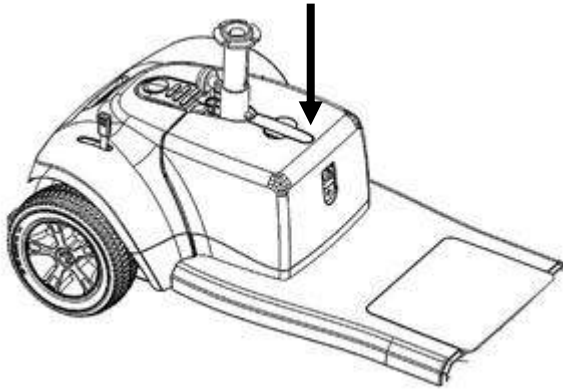

Fig 6.5.1
- Carefully lower the battery box into position on the scooter making sure the box is securely and fully connected to the battery connector. (See Fig 6.5.1)